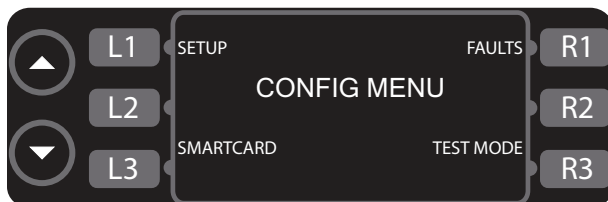
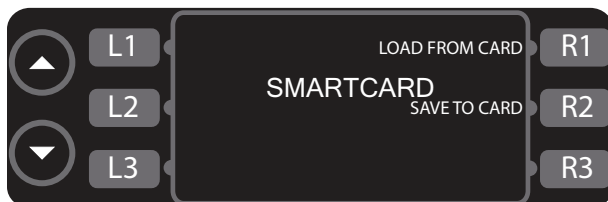

Figure 16: Config Mode
Figure 17: Smart Card Screen
The config mode (Figure 16) serves four main purposes:
1. Touch L3 (Figure 16) to access the smart card screen (Figure 17).
- Touch R1 to load a menu from the smart card to the oven (Figure 17).
- Touch R2 to save a menu from the oven to the smart card (Figure 17).
From the configuration mode (Figure 16), touch R1 to access the fault counts screen (Figure 20, page 16). The oven will display the number of faults that have occurred.
From the configuration mode (Figure 16), touch L1 to access the setup mode. The setup mode allows the user to customize several oven settings - see below for more details.